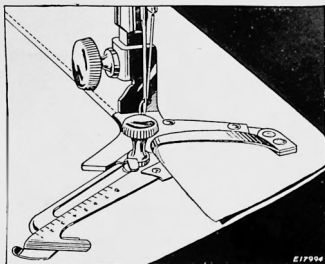

FIG. 43. SHOWING HOW ADJUSTABLE HEMMER IS USED FOR MAKING HEMS WIDER THAN $15/16$ INCH
- (1) Loosen the thumb screw on the hemmer, move the scale to the right as far as it will go, then swing it toward you, as shown in **Fig. 43**, and tighten the thumb screw.
- (2) Fold and crease the desired width of hem.
- (3) Place the fold under the extension at the right of the hemmer and the edge into the folder, as shown in **Fig. 43**.
- (4) Draw the end of the hem back under the needle, lower the presser bar and commence to sew.
- (5) Guide the cloth to keep the hem flat.
Folded bias binding must be inserted in the slot or slots of corresponding sizes. See **Fig. 43**.